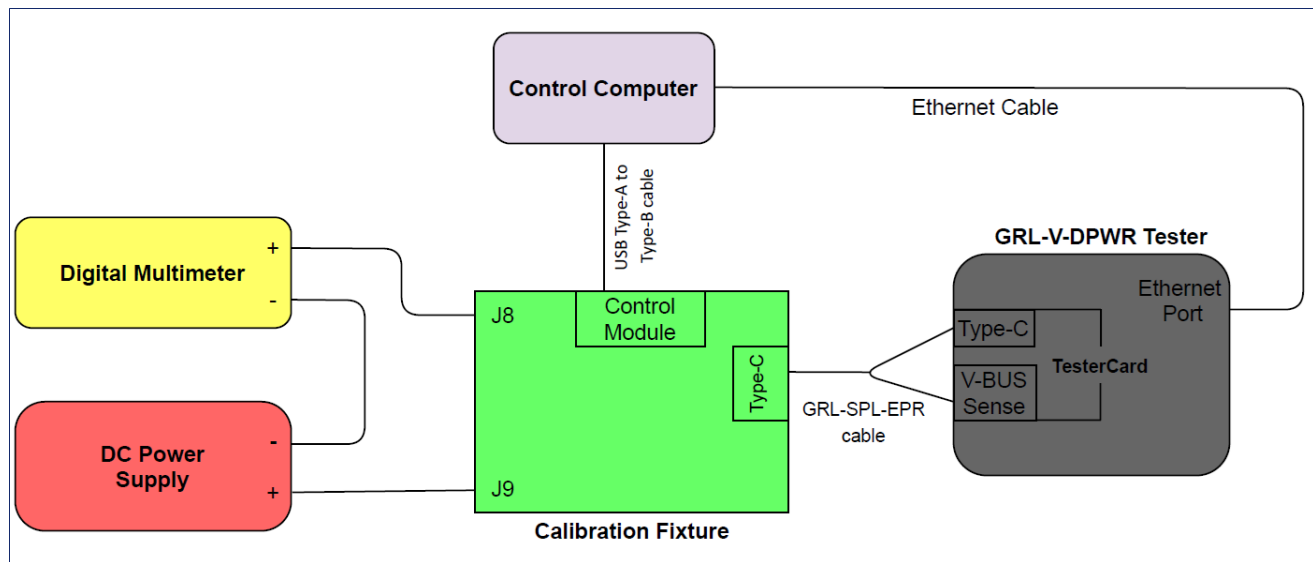

Figure 16. Connection Setup for GRL-V-DPWR Manual Sink Port Verification for Current Measurements
This section describes the connection diagram to set up the equipment and fixture for manual sink port verification for current measurements. Set up the hardware connection as shown in Figure 16 below.
1. Set up the hardware connection as shown in Figure 16.